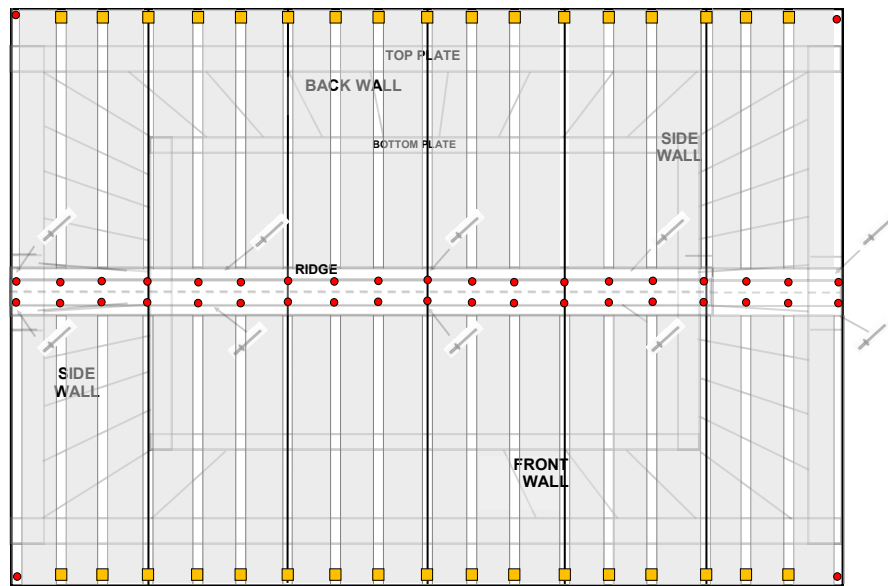

fig.2
- Rivet the 2 Ridge Caps together using four rivets, so total flashing is 3.050m long. Rivet the Ridge Cap to the centre of the roof using 10 x rivets as shown (fig.2).